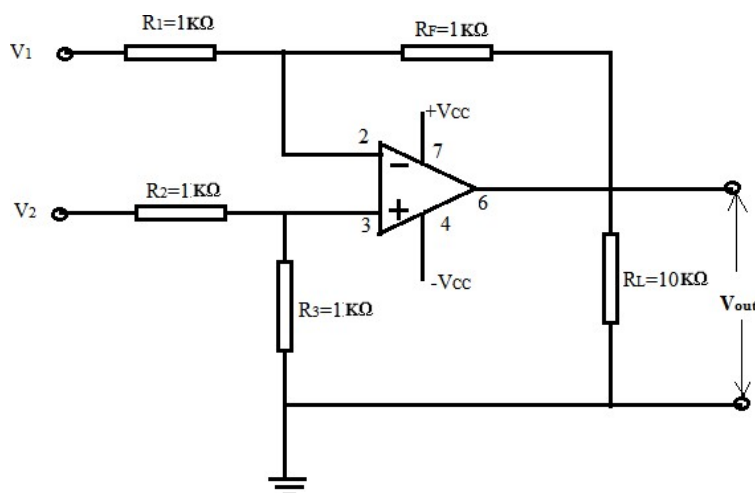

Figure 2: Circuit diagram of Op-Amp as Subtractor
1. Connect the subtractor circuit as shown in Figure 2.